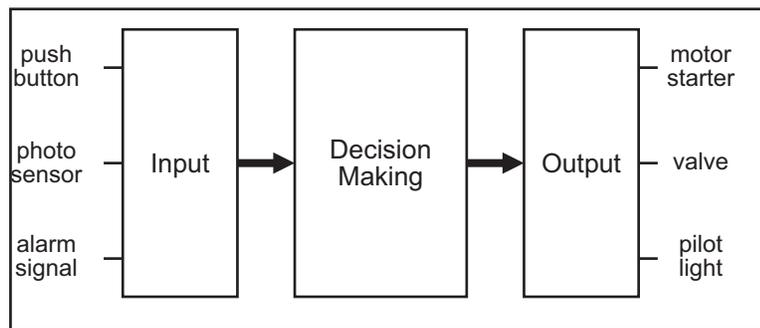

Figure 3
All control systems can typically be defined as having inputs, outputs and some form of decision making going on in between so that the outputs are controlled based on the status of the inputs. This brings us to our third category, the “decision making” element. This element can be performed by a PLC, where we have inputs, outputs and a central processing unit (CPU) that uses logical programming to make decisions based on input status and the logical conditions set in the program (see figure 3). A similar device that can be looked at in the same manner is a personal computer (PC). The keyboard, mouse, scanner, etc. would serve as input devices and the monitor, printer, speakers, etc. would